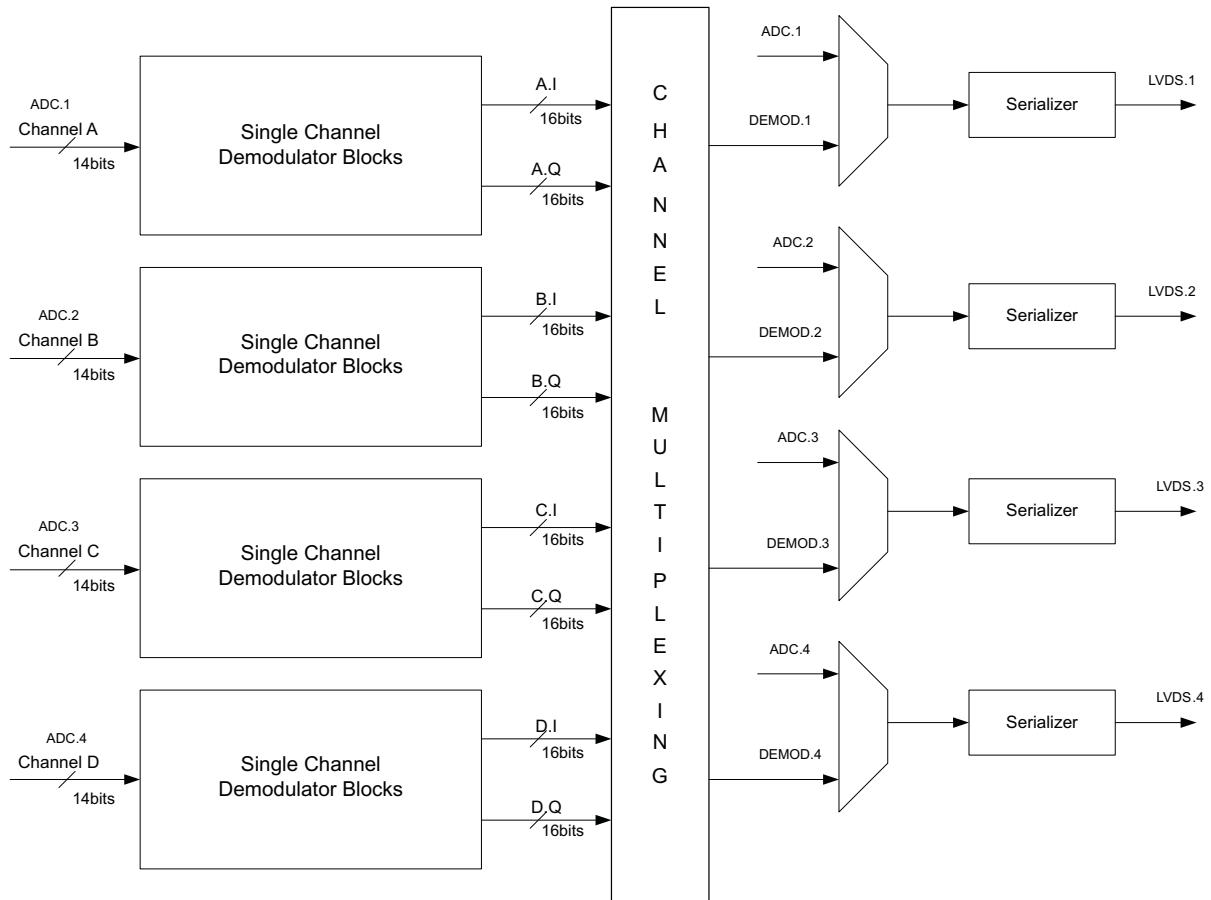

Figure 86. Channel Multiplexing
4. In Figure 86, channel multiplexing is implemented for flexible data routing. :